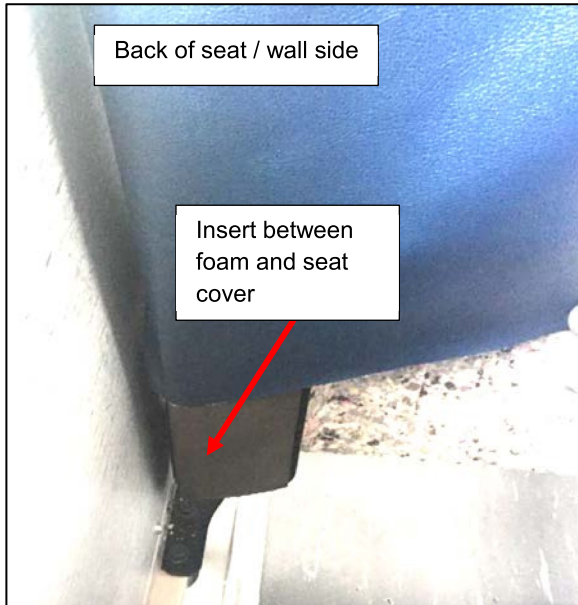
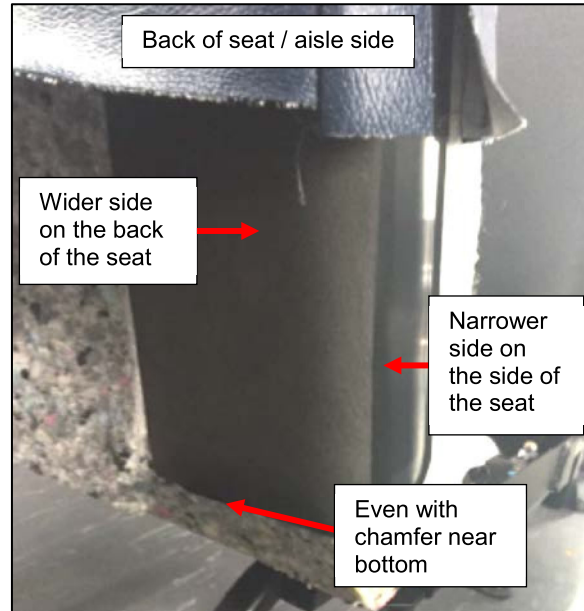

Figure 7: Insert Installed
Figure 8: Insert During Installation
9. Place the Insert between the vinyl and the existing foam. The narrower side of the insert is positioned toward the side of the seat and the wider side is positioned toward the back of the seat. See **Figure 6**, **Figure 7**, and **Figure 8**.